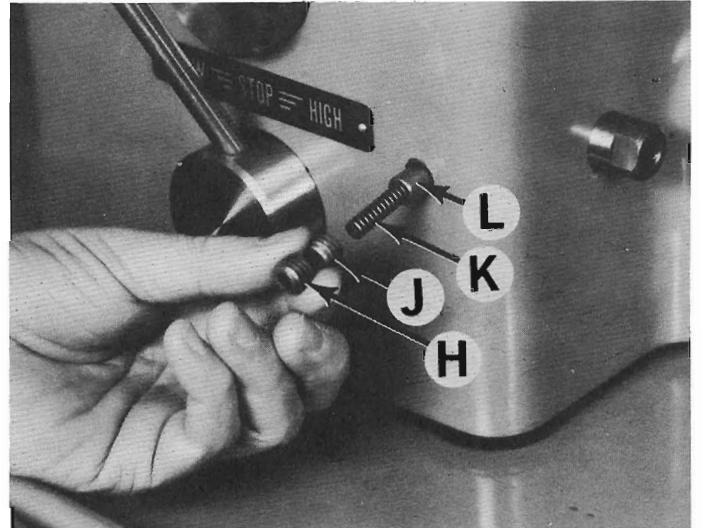

Figure 58 — Stop Rod Plunger Assembly
5. Remove lock screw "H", Figure 58, set screw "J", spring "K" and plunger "L".
8. Replace plunger "L", Figure 58, spring "K" and set screw "J". Adjust screw "J" to obtain proper "feel" when operating lever "T", Figure 62. Replace lock screw "H", Figure 58.